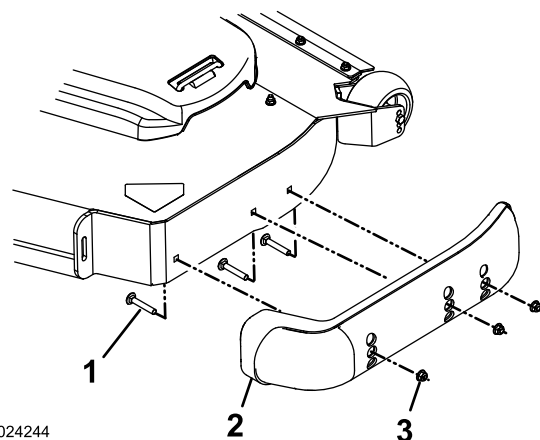

Figure 35
3. Remove the carriage bolts and nuts from each skid (Figure 35).